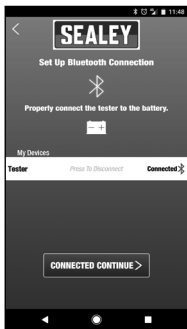
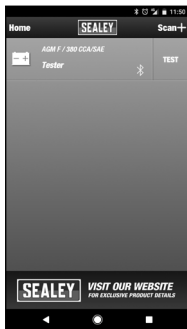

fig.6
fig.7
- 7.1.4. When connected, press "CONNECTED CONTINUE" (fig.6). In this screen, the user may create a name for the tester. (fig.9) Swipe the "TEST>" area (fig.7) of the active tester to bring up the Edit option. (fig.8)